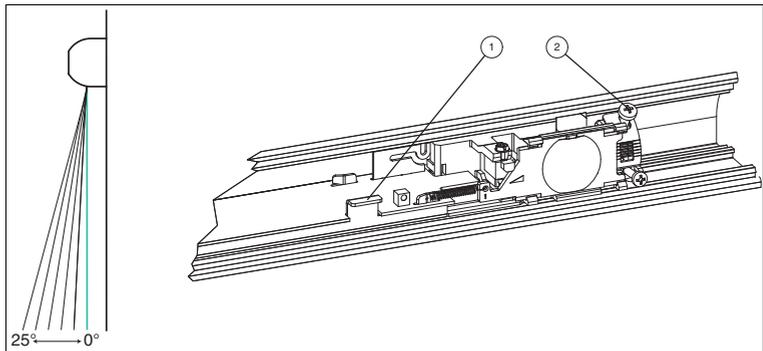

Figure 6.1 Setting the detection angle
**2** → see Figure 6.1 on page 15.